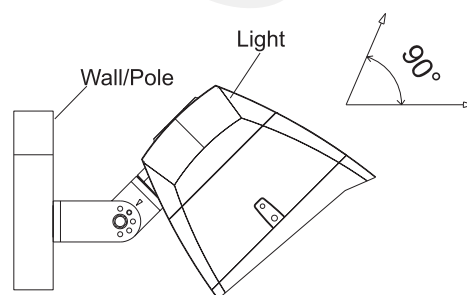

Figure 9
Step 3: Connect the fixture to the bracket and tighten the screws; connect the wires properly. (Figure 9)
Notice: Adjustable angle is $0 \sim \pm 90^\circ$ (Figure 9)